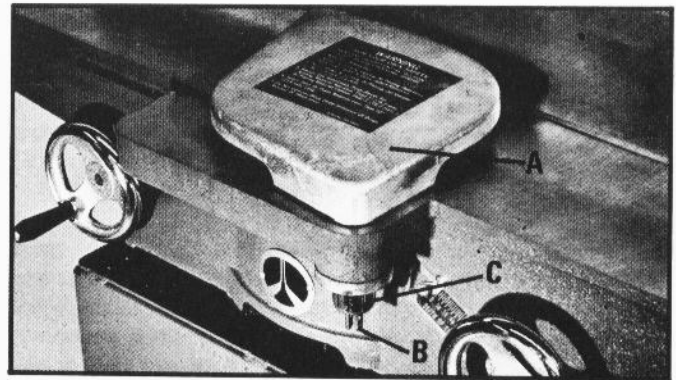

Fig. 9
Assemble the cutterhead front guard assembly (A) Fig. 9, to the jointer, by inserting the post (B) of the guard assembly down through the hole in the front table. A spring is supplied in the knob assembly (C) Fig. 9, that returns the guard over the cutterhead after a cut has been made. To provide spring tension, turn the knob (C) Fig. 9, to put tension on the spring before inserting the post (B). When inserting the post (B) down through the hole in the front table, make sure the spring, enclosed in the knob (C), engages the slot provided in the end of the post (B). If spring tension is too much or not enough, remove the guard and post and adjust spring tension accordingly by rotating knob (C).